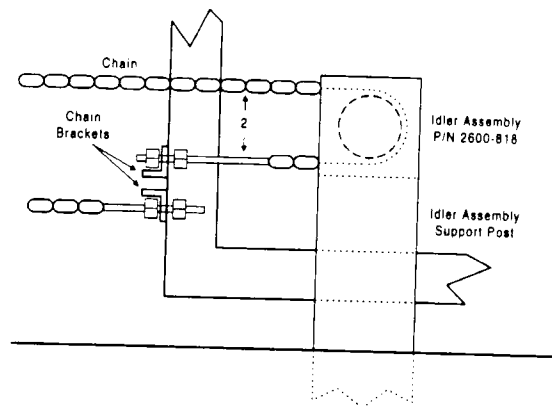
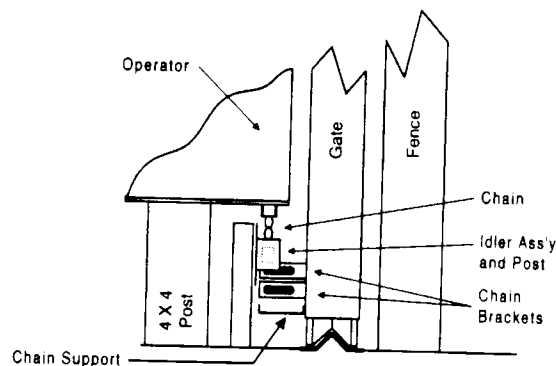

FIGURE 1.9.4A
FIGURE 1.9.4B
1. Install an endless idler assembly (p/n 2600-818) at each end of the gate opening (figure 1.9.4A & D). Note that the gate travels between the fence and the chain in this type of installation (figure 1.9.4B). **IMPORTANT!! Be sure that the idler post/mount assembly is secure.**
2. Secure the chain brackets to the gate as shown in figure 1.9.4A. The chain brackets should be attached to the gate frame so that they are approximately one (1) inch apart.
4. Attach the chain to the chain bolts using the master links supplied, then attach the chain bolts to the chain brackets using the hardware supplied (figure 1.9.4A). Make any adjustments to the chain length at this time.